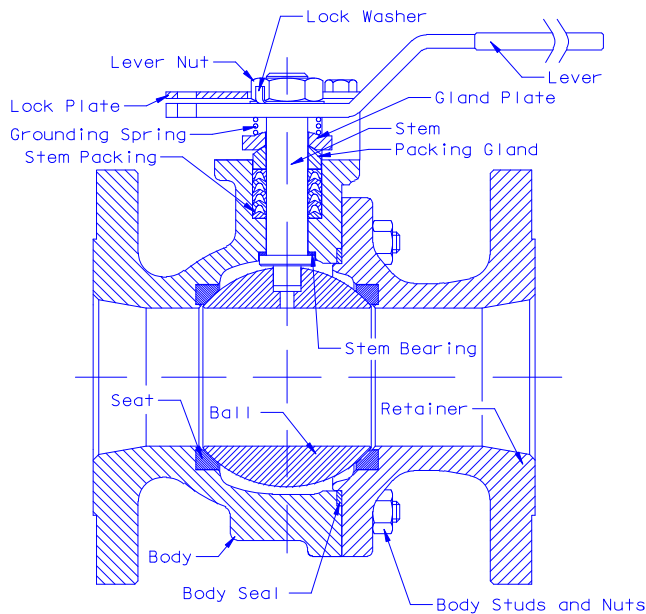

Figure 1: Typical Standard Port Valve Assembly
<p>Limitations</p> <ul style="list-style-type: none"> ▪ Conditions supporting no greater than Category III valves. Valves are not to be used in safety functions such as safety loops or separating incompatible fluids. ▪ For gases and liquids in Groups 1 & 2. ▪ In-line service only, not recommended for end of line service. ▪ Service to be compatible with the materials of construction. Prior to selection it is the user's responsibility to determine that the valve is appropriate for the intended application. Application not to allow corrosion $>.002"/\text{year}$ ($.05\text{mm}/\text{year}$). ▪ The possibility of material deterioration in service and need for periodic inspections is the responsibility of the user. ▪ Mechanical supports are not to be welded directly to the valve, however may be fitted to the associated piping. ▪ It is the piping system designer's responsibility to implement appropriate protection measures to minimize reaction forces and moments, which result from supports, attachments, piping, etc. ▪ Laws of the state must be observed as they apply. ▪ In service inspections may be required by the national authorities of the country where the valve is installed. ▪ Some National/Local authorities may require periodic hydrostatic testing. ▪ Only use Conbraco replacement parts. ▪ On-off service only (not to be used for throttling). ▪ Valves are primarily intended for industrial use. 	<p>Installation</p> <p>Proper valve selection is the first step in any successful installation. Refer to an "Apollo Ball Valve Binder", where applicable for application guidance or contact your distributor or the factory for more detailed assistance.</p> <p>WARNING: All installations shall be provided with pressure relief devices in accordance with the requirements of the Pressure Equipment Directive 97/23/EC. Proper installation prior to initial operation is the user's responsibility. Furthermore where an additional hazard can occur due to valve exposure to fire or other unexpected external heat source, a supplemental pressure relief device shall be installed to protect against excessive pressure. This device shall prevent the pressure from rising more than 21% above the maximum allowable working pressure.</p> <p>Pre-Installation Inspection</p> <p>Inspect the piping system prior to valve installation whenever possible, to insure that it has been properly flushed and cleared of construction and fabrication debris. The seating surfaces in soft seated valves are particularly susceptible to weld slag and sand blasting grit. Pipe scale, metal chips and other foreign materials should be avoided.</p> <p>Just prior to installation, remove each valve from its packing, install handle and other parts if shipped loose (see figure 1) and remove any end covers. Examine the flow bore for debris. All Apollo ball valves are shipped in the open position to prevent damage to the ball surface. Any grit or foreign matter must be removed. Do not install a damaged valve.</p> <p>It is also important to check for valve operation clearances. If necessary, valves can be installed at angles other than upright or vertical.</p>
- **Standard & Full Port only** Insert the retainer seat and place the retainer on the body. The ANSI flange bolting will always straddle the valve centerlines. See Figure 1. Loosely assemble the body bolting nuts.